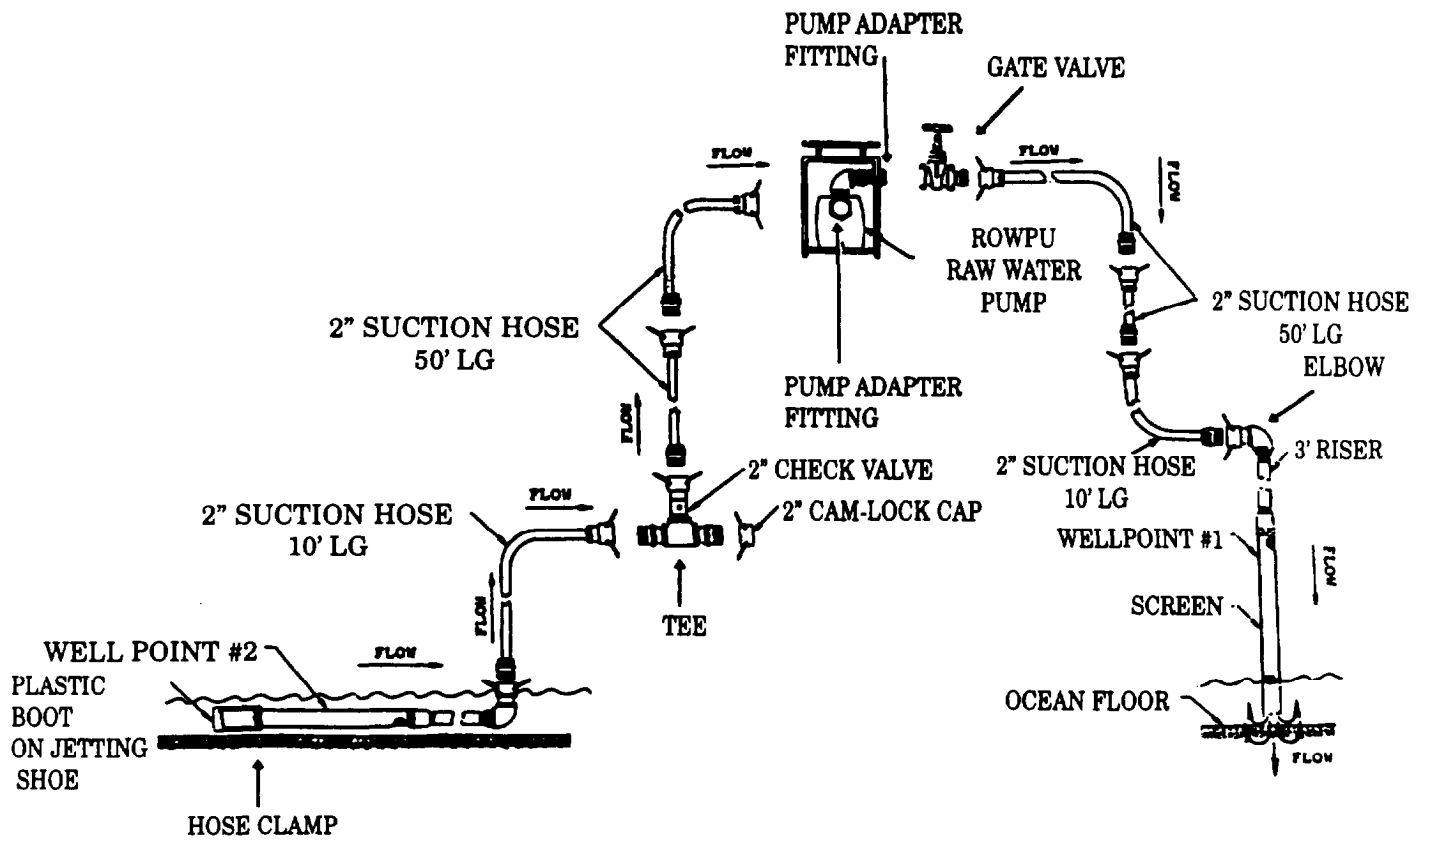

Figure 2-36a.Ocean Intake Structure Setup
- (7) Remove cover from RAW WATER PUMP NO. 2 receptacle on junction box. Connect raw water pump No. 2 electrical cable to receptacle.
- (8) Remove cover from RAW WATER PUMP NO. 1 receptacle on junction box. Connect raw water pump No. 1 electrical cable to receptacle.
- (9) Check security of all hose coupling connections.
o.1 Setup Raw Water System Using: Ocean Intake Structure Refer to Figure 2-36a. This procedure applies the Ocean Intake Structure which is supplied with Models H-9518-1) H-9518-2 and H-9518-3 only. The Ocean Intake Structure is used in place of the strainer and float.
During initial installation, one of the two wellpoints is used for source water when jetting the other wellpoint. The wellpoint used for source water may be either laid flat on the ocean floor (beach) or attached to a vertical metal stake while the jetting operation is conducted. Ensure that the source wellpoint, whether laid flat or attached to stakes, is completely submerged. Refer to figure 2-36a.